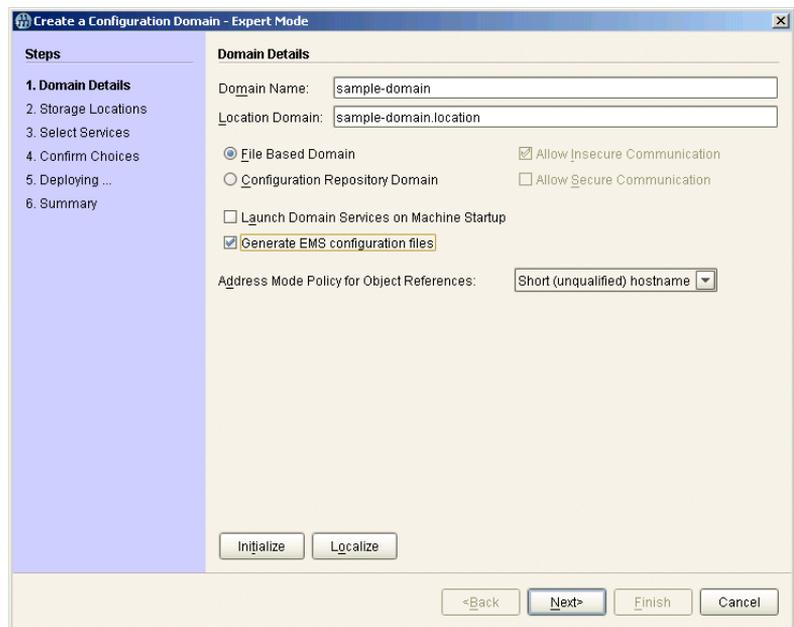

Figure 7: *Selecting EMS Configuration*
1. Select **File | New | Expert** from the GUI main menu. This displays the **Domain Details** screen, as shown in Figure 7.